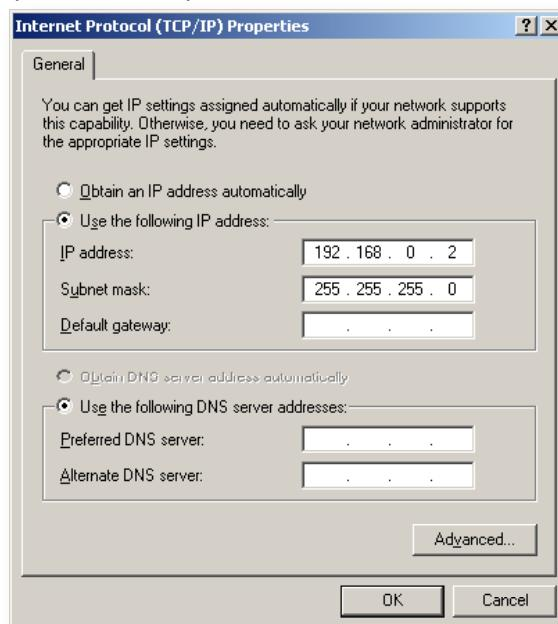

Fig. A-6 Setting an IP address
4. Select the *Internet Protocol Version 4* entry and click Properties. The screen shown in Fig. A-6 then appears. Select Use the following IP address as shown and enter 192.168.0.2 as the IP address for your computer as specified. The specified subnet mask will be filled in automatically.